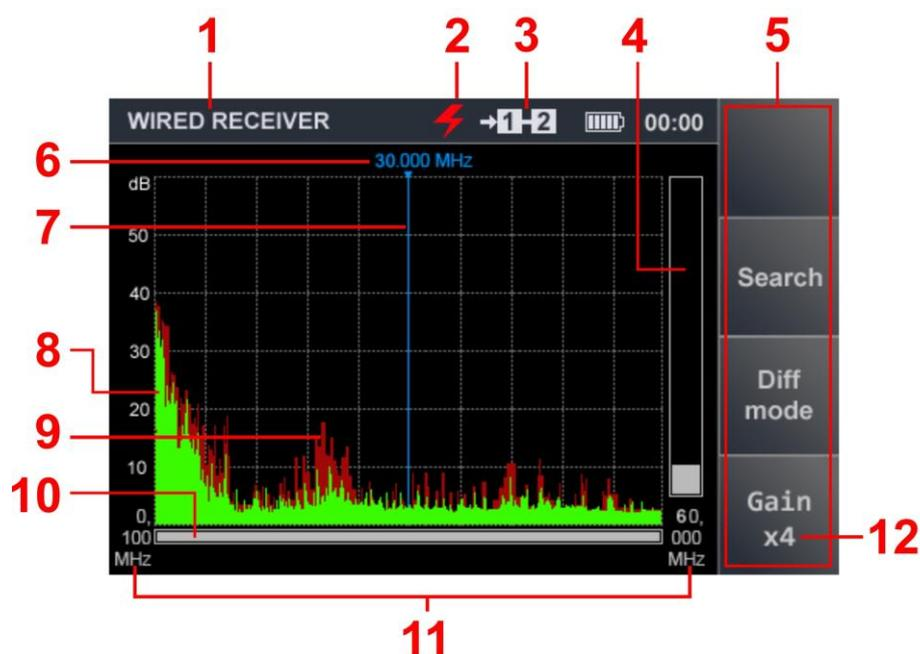
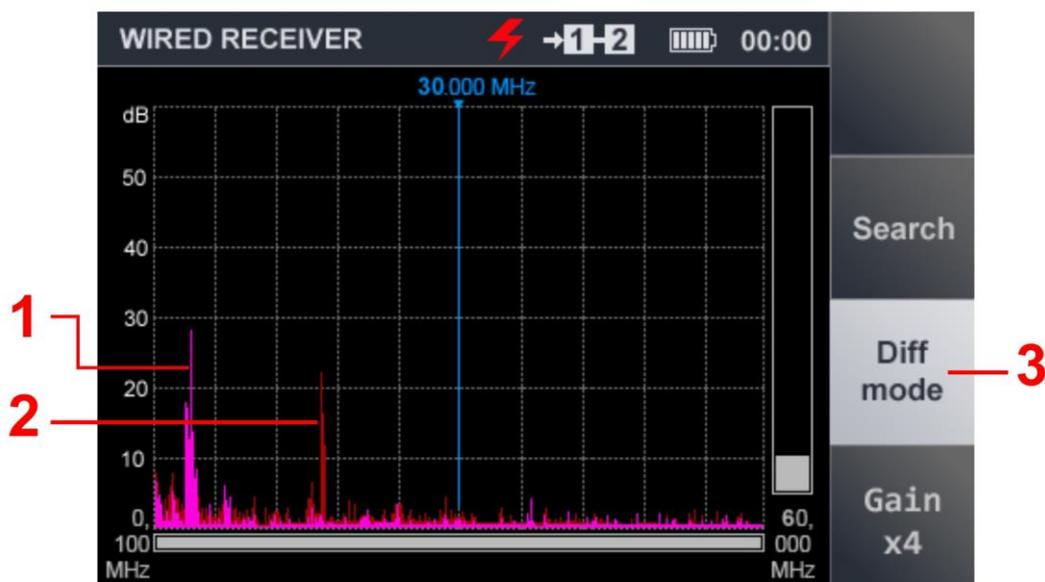

Fig.42
Fig.43
After selecting the type of cable and the frequency range, the spectrogram is display on the screen (Fig.42).
In Fig.42:
The maximum signal levels (received during the range viewing session) are marked in claret color. The viewing range is display in digital form (Fig.42, item 11) and in graphical form (Fig.42, item 10).
The DIFFERENTIAL mode is turn on in the PANORAMA mode (Fig.42) by pressing F3 ("Diff mode"). The field of this button will become lighter (Fig.43).
In Fig.43: